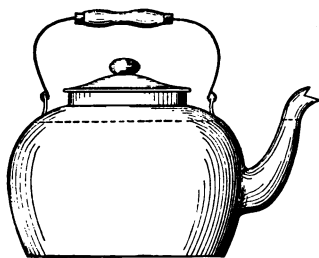

FIG. 54. — Water seeks its own level in a teakettle.
62. Levels of liquids in connecting vessels. Probably every one has observed that water stands at the same level in the spout of a teakettle as in the kettle itself (Fig. 54). In other words, liquids seek their own level, or the same liquid in any number of connecting vessels will have its free surface at the same level in each. This is to be expected from the fact that the pressure in a liquid depends upon the depth below the free surface. Thus if